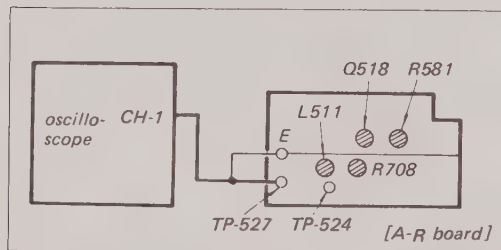

Fig. 8-19. Y mix level, 3.58 MHz trap and color mix adjustment test setup
2. Connect the scope probe to TP-527 on the A-R board. See Fig. 8-19.
1. Place scope probe at TP-524 as shown in Fig. 8-19.
3. Adjust R581 for a burst signal of 0.3 V (p-p) See Fig. 8-19.